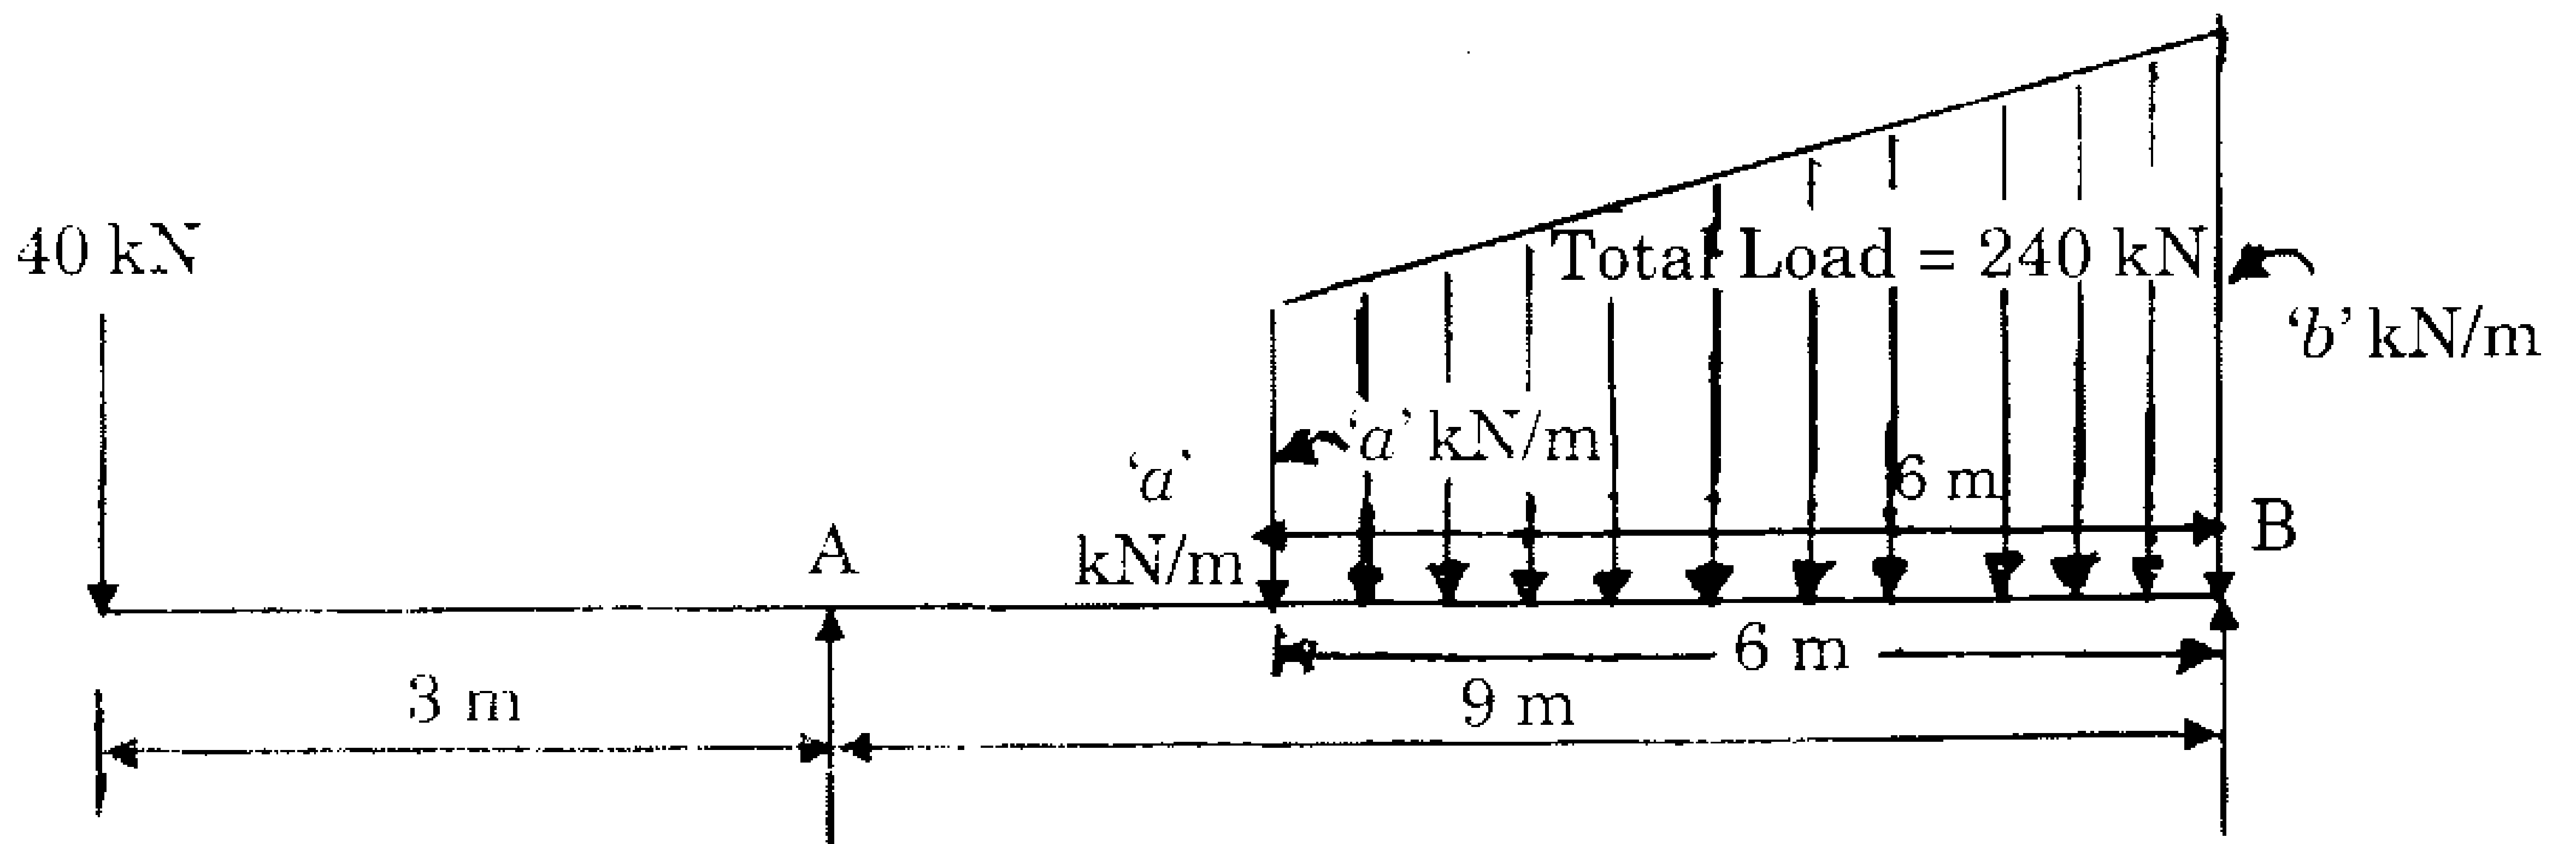

Fig. 1
- (K) What are the different types of estimates ?
- (L) What is a lump sum contract ?
- (M) State the purpose of scheduling in a construction project.
- (N) What is the direct cost in any construction project ?
- (O) Define the terms total float and free float.
- (P) What is meant by per capita demand ? Explain how the per capita demand is worked out ?
- (Q) What are water-borne diseases and how are they prevented ?
- (R) What is meant by 'hydraulically equivalent section' in sewer design ?
- (S) Find out the percentage reduction in the volume of the sludge, if moisture content of the sludge is reduced from 95% to 90%.
2. (a) For the beam shown in Fig. 1 determine the value of 'a' and 'b' for reaction at supports A and B to be equal. Also determine the position of point of inflexion and draw the bending moment diagram for the beam. 15